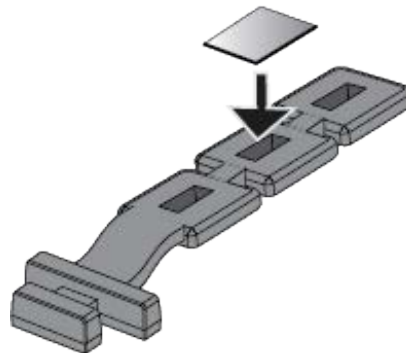

Figure 59. Affixing an Insulator Pad to the USB Retainer
3. Affix one or more insulator tapes to the bottom pads of the USB retainer. Refer to Figure 59.